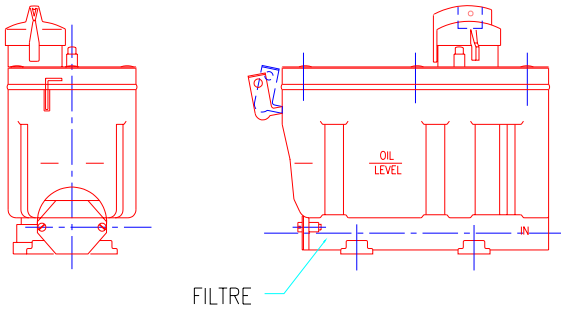

Figure 14A: ARMING / DEARMING FLOW CONTROL VALVE (CARBURATOR).
- If it's not already done, arm down the valve's lever located behind the stove (figure 14A).